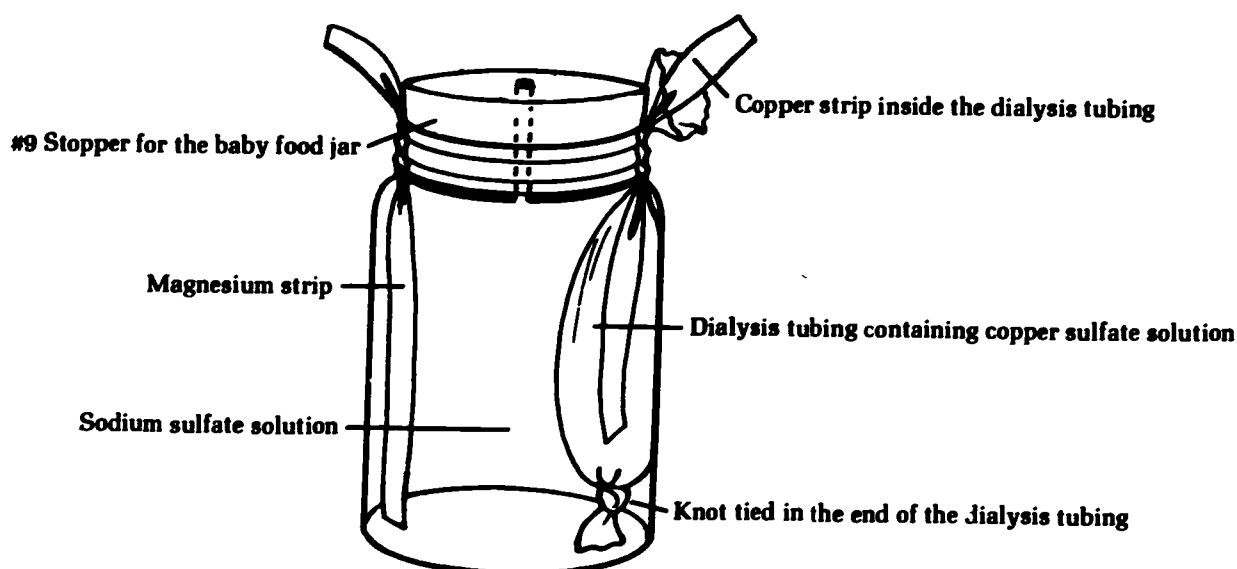

Figure 3. A simple battery made from a baby food jar.
1. Construct the battery according to Figure 3. Use a large baby food jar and a one-hole rubber stopper (#9). Beakers can be used also.